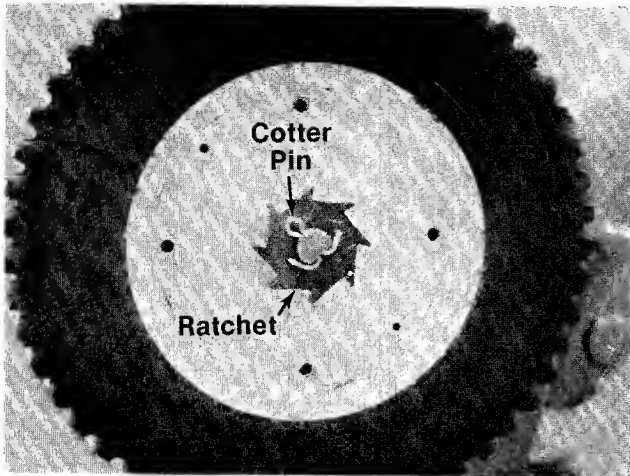

FIGURE 22.
8. Remove the cotter pin on the RIGHT WHEEL ONLY and remove the ratchet. See figure 22.
Mark the outside of the ratchet so it is not assembled backwards or refer to figure 22 for reassembly.